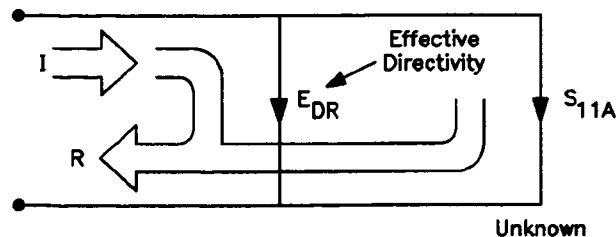

Figure B-3
In such a measurement, all of the incident signal does not always reach the unknown (see Figure B-3). Some of (I) may appear at the measurement system input due to leakage through the signal separation devices. Also, some of (I) may be reflected by imperfect adapters between signal separation and the measurement plane. The vector sum of the leakage and miscellaneous reflections is directivity,  $E_{DF}$ . The measurement is distorted when the directivity signal combines vectorally with the actual reflected signal from the unknown,  $S_{11A}$ .